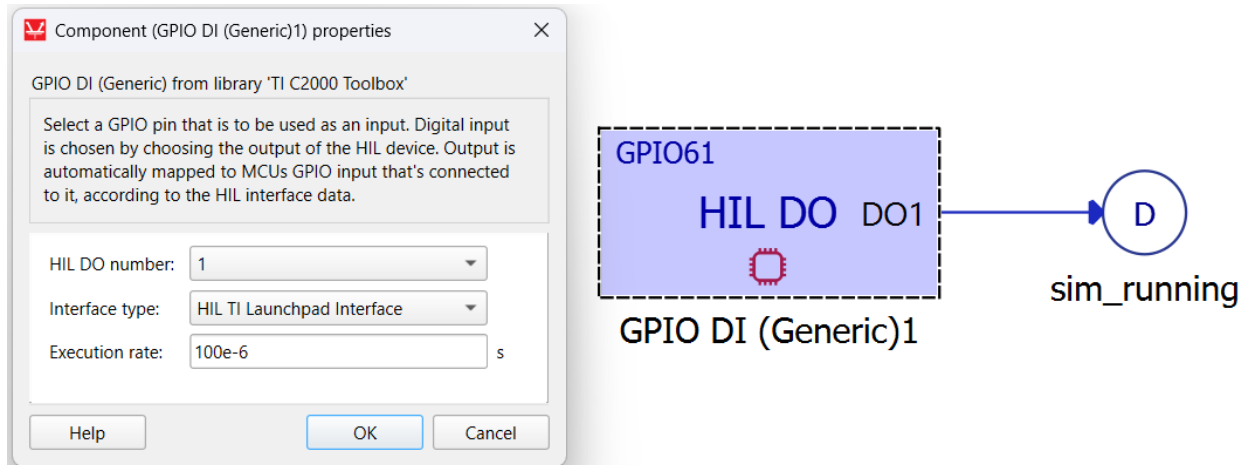

Figure 1. Configuring GPIO pin.
2. **Configure a GPIO pin** as digital input with GPIO DI \(Generic\) or GPIO DI component to sample HIL digital output (Fig. 1).